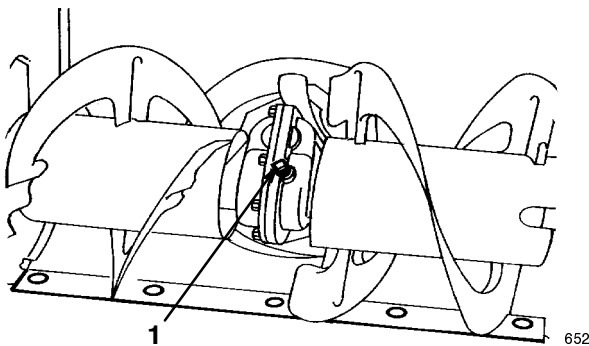

Figure 24
3. Clean the area around the pipe plug to remove any dirt (Fig. 24).
4. Remove the pipe plug from the gear box (Fig. 24).